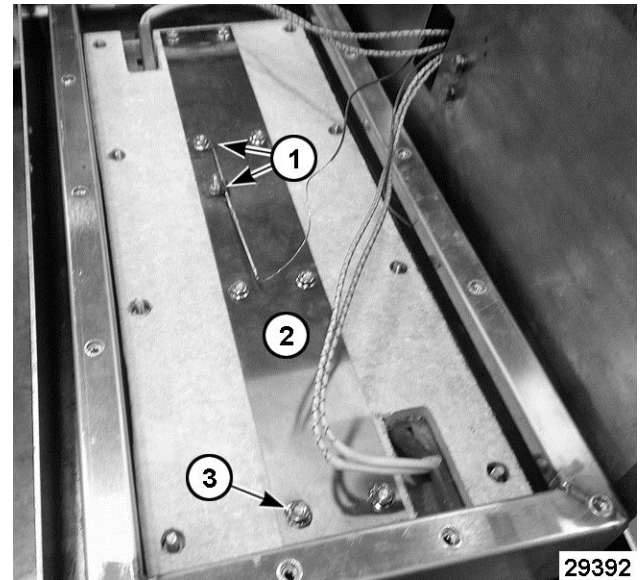

Fig. 41
6. Remove 2 mounting nuts and clips (1, Fig. 41) securing high limit capillary bulb to platen insulation retainer (2, Fig. 41).
7. Remove the remaining 7 mounting nuts (3, Fig. 41) from platen insulation retainer.